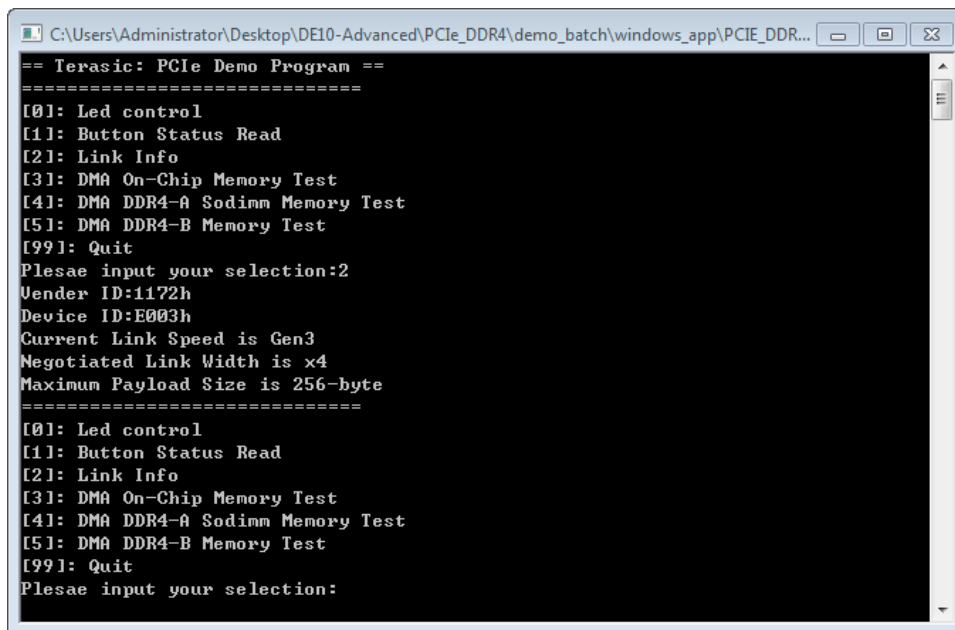

Figure 5-20 Screenshot of Link Info
9. Type 2 followed by a ENTER key to select Link Info item. The PCIe link information will be shown as in **Figure 5-20**. Gen3 link speed and x8 link width are expected.